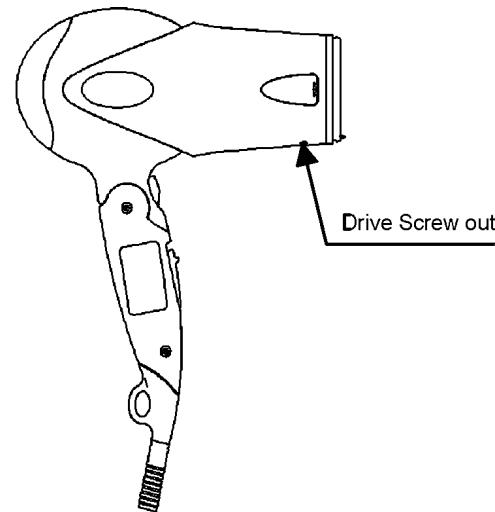

Figure 13
2. Remove screw from Air Outlet Ring and rotate counterclockwise then pull out as shown in Figure 13.